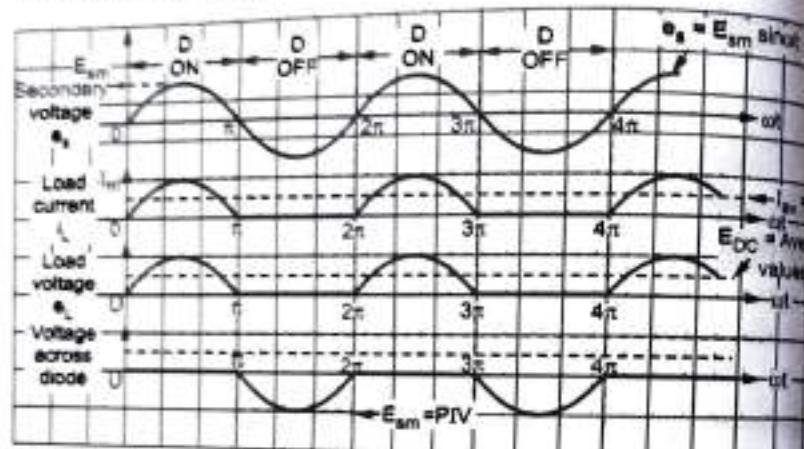

Fig. Q.25.3 Load current and load voltage waveforms for half wave rectifier
- The load voltage, being the product of load current and resistance, will also be in the form of half sinusoidal pulses, different waveforms are illustrated in Fig. Q.25.3.